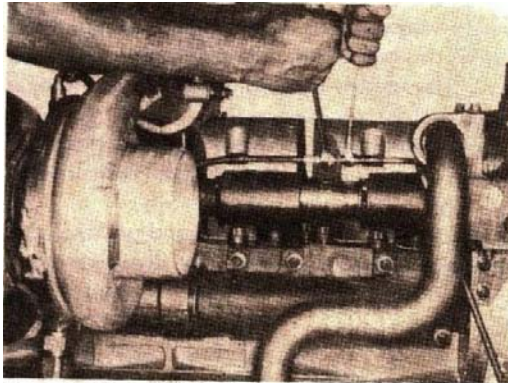

Fig. 14-101, Install the turbocharger supply line
8. Install the turbocharger supply line. Secure it with tube clips and tube nuts . Fig. 14-101.